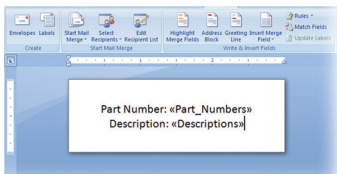

FIGURE 13 Word document ready to receive data from Excel Column B.
- K. Select **Column B header**. A **Column B space-holder** (<<Descriptions>>) appears next to the Column B header (Fig. 13).